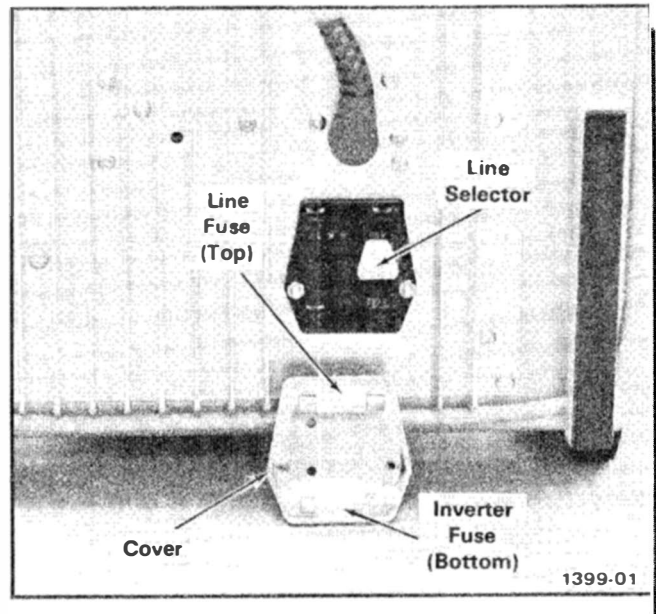

Fig. 1-1. Line Selector assembly on rear panel (shown with cover removed).
3. To convert from 115 V to 230 V nominal line voltage, or vice versa, pull out the Line Selector switch bar (see Fig. 1-1) and plug it back into the remaining hole. Change the line-cord power plug to match the power source receptacle or use a 115 V to 230 V adapter.